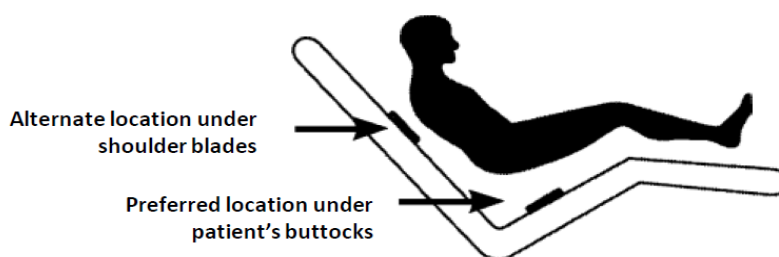

Figure 1 – STANLEY® Bed Alarm Sensormat® Pad Positioning
5. The preferred pad location is directly under the patient/resident's buttocks 8 to 13 cm (three to five inches) below the bend in the mattress when the head of the bed is elevated (refer to Figure 1).
- a. Effective operation of the Sensormat® pad in the alternative location, behind the patient/resident's back, is dependent upon their weight and the articulation angle of the bed (refer to Figure 1).